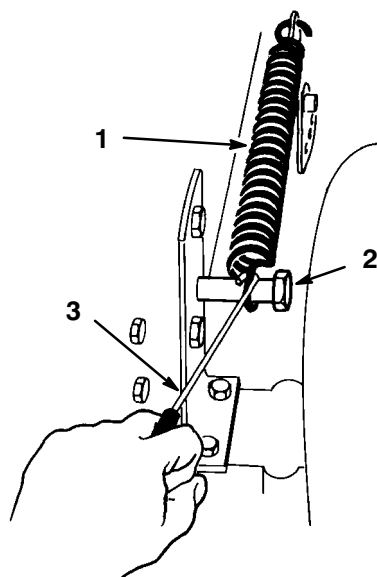

Figure 46
7. Remove the lift assist spring between the mower right side lift bracket and the retaining bolt (Fig. 46) Use the spring tool provided with the machine.